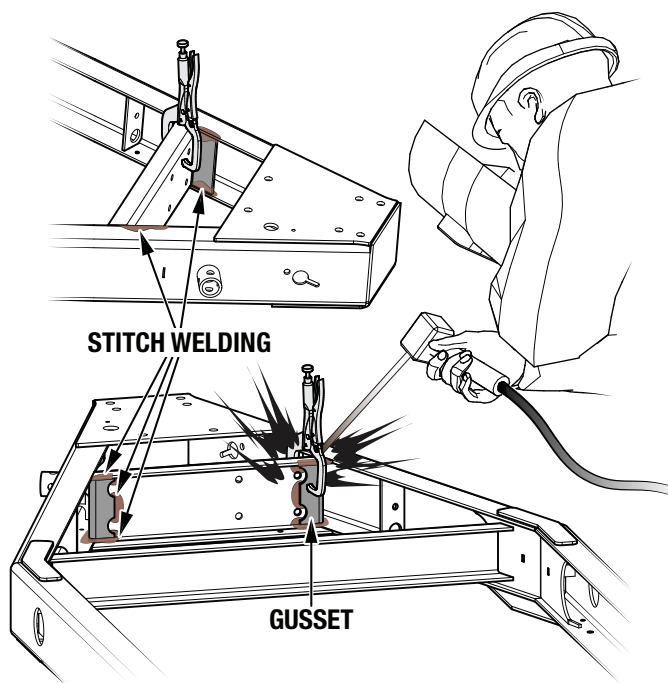

Figure 6. Gusset Welding
3. Weld the gusset to the trailer frame (Figure 6).